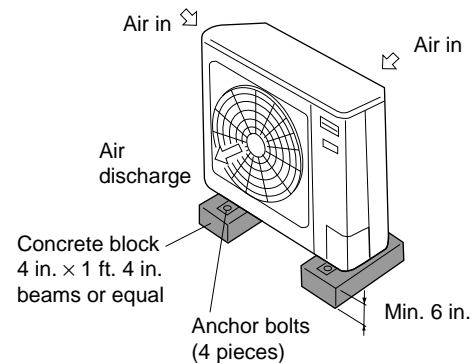

Fig. 4c
- provide a solid base a minimum of 6 inches above ground level to reduce humidity and protect the unit against possible water damage and decreased service life. (Fig. 4c)